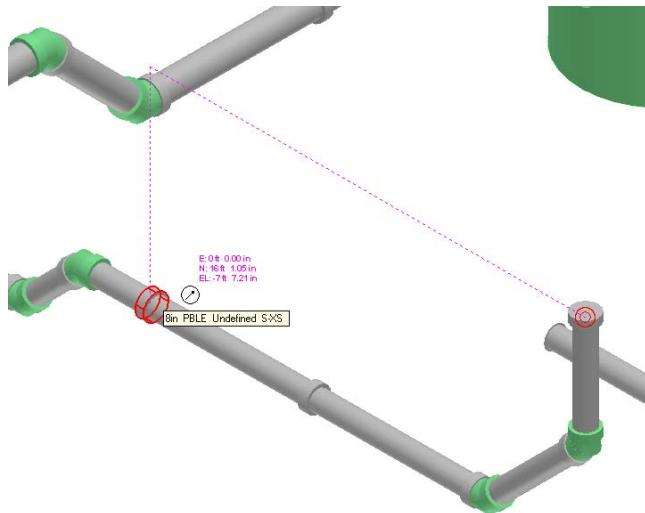

Figure 43: Defining the First Point on the Plane
78. The system prompts you to specify the first point of the plane. Select a port on the lateral pipeline to define the first point of the plane, as shown in Figure 43.